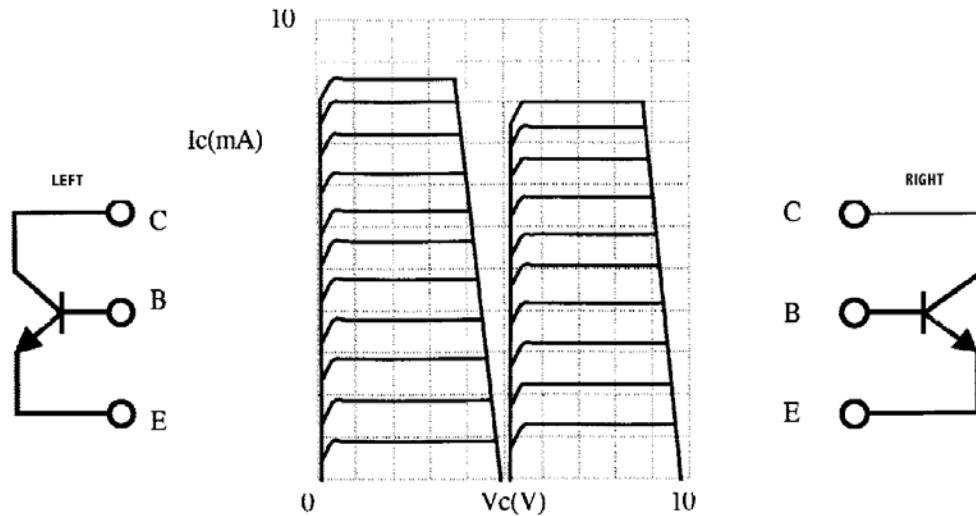

Fig.3-7
3.2.7 Double cluster display of NPN 9013 transistor output features (see Fig. 3-7)